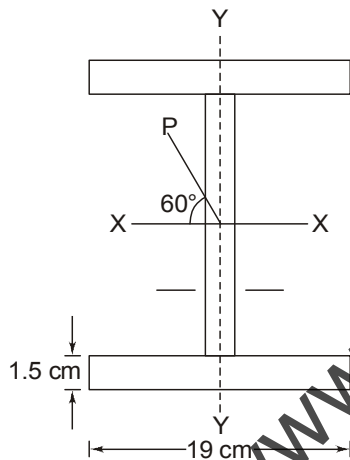

Fig. 3
- (b) The I-beam shown in Fig. 3 is simply supported at its ends over a 4 m span and carries central load of 50000 N which acts through the centroid, the line of action being as shown in Fig. 3. Calculate the maximum stress. (15)